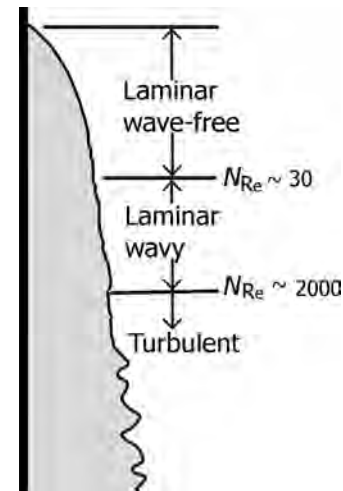

FIGURE 9.7 Film condensation on a vertical plate.
- Figure 9.7 shows transition of condensate flow from laminar to turbulent, through wavy laminar intermediate flow.
- The flow is laminar and wave-free up to a certain distance, turns wavy, remaining laminar as shown, and finally turns turbulent at an approximate Reynolds number of about 2000. Figure 9.7 illustrates this point.